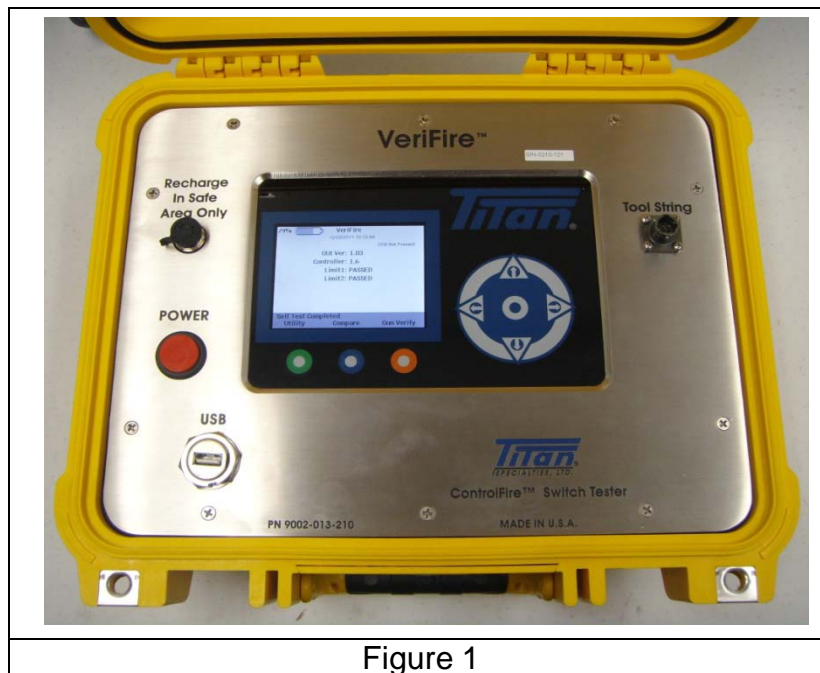

Figure 1
- **VeriFire® Panel** – Shown in Figure 1 is a VeriFire® Panel. The purpose of the VeriFire® Panel is to test and confirm the proper operation of ControlFire® switches contained in an armed or unarmed perforating gun while on surface. This unit is self-contained, equipped with a rechargeable battery, built-in touch keys and a sunlight visible LCD. A USB input is also available that supports saving new gun string files and comparing gun strings to existing stored files.